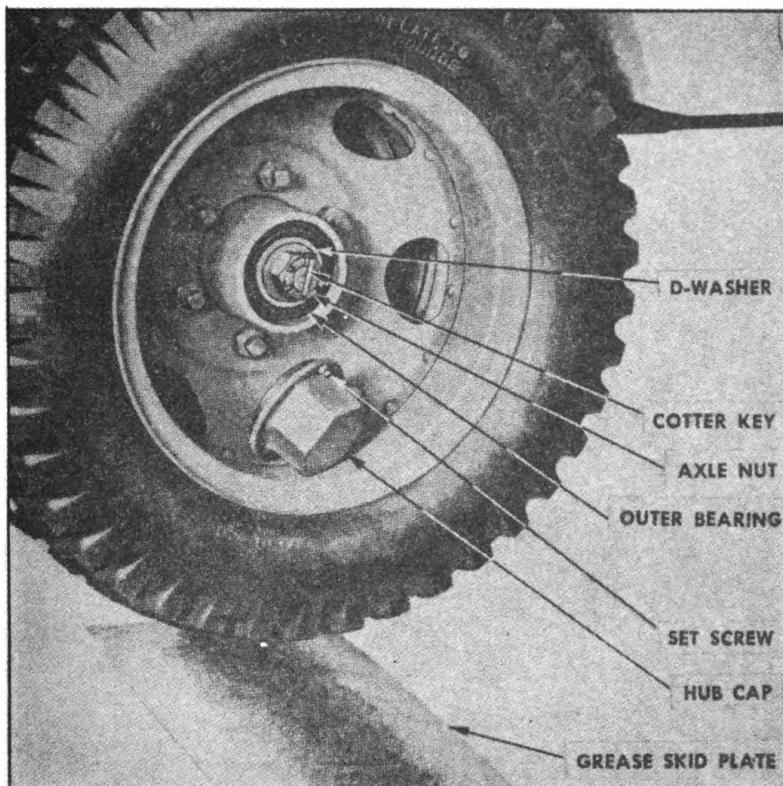

FIGURE 72. REAR OUTER WHEEL ASSEMBLY
3. OUTER WHEEL ASSEMBLY, REAR AXLE (Figure 72).—*a. Removal.* To remove the axle hub assembly from the axle, proceed as follows: